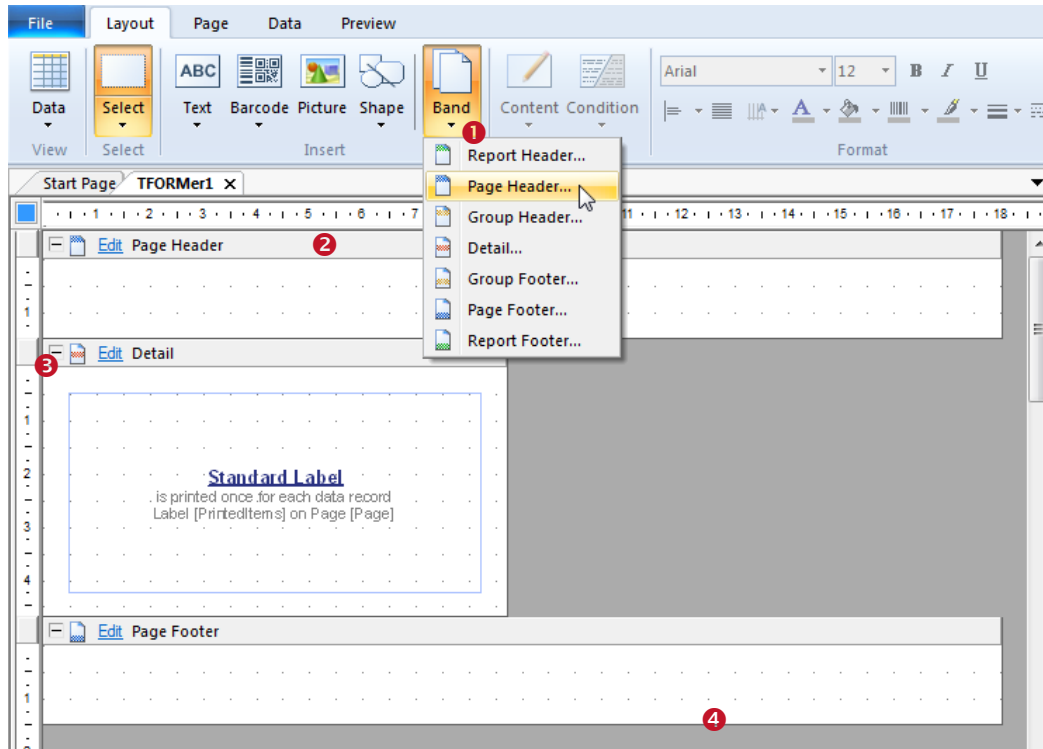

Figure 36: Insert a Band
For reports the height of bands is freely adjustable. It can be changed with the mouse by clicking and dragging the lower band margins (see Figure 36, ④). Alternatively you can adjust the height in the group "Position" in the properties window.